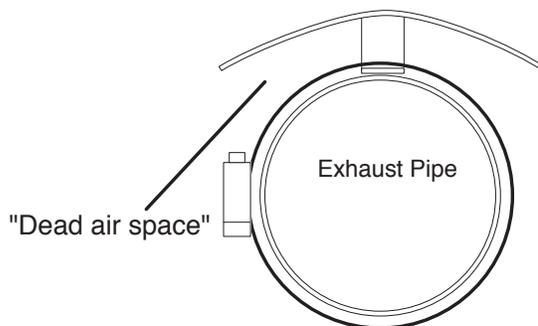

fig. 23
4. Bend the heat shield to form it around the tail pipe. Be sure to maintain a “dead air” space of 1/2” to 1” between the tail pipe and the heat shield (fig. 23).